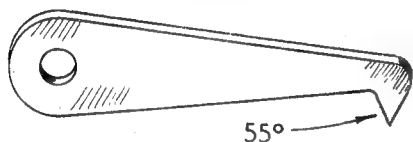

Fig. 1. Tool for cleaning chuck threads
**W**HEN screwing a chuck, or for that matter any other fitting, on to the mandrel nose, make sure that the threads on the nose are quite clean and well oiled in order to reduce wear. If the chuck has previously screwed home under moderate pressure and now sticks, it is probable that there are some chips adhering to the chuck threads, and the chuck must then on no account be forced on. The threads can readily be cleared by using a tool of the form shown in Fig. 1, made,